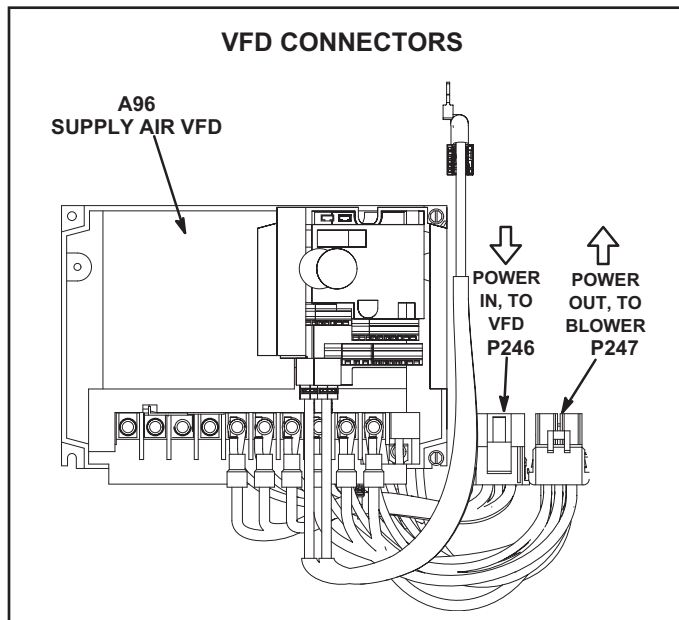

FIGURE 38
- 2 - Locate P246 and P247 connectors near the VFD. See FIGURE 38.